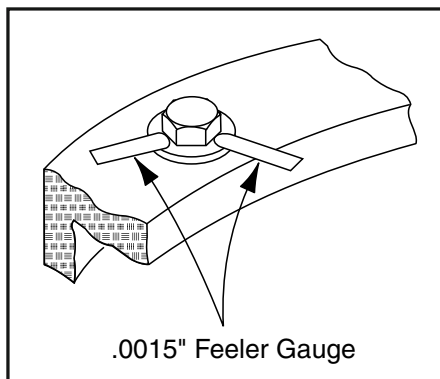

Figure 3-4. Swing Bearing Bolt Feeler Gauge Check
- b. At the positions indicated on Figure 3-4. try and insert the .0015" feeler gauge between the bolt head and hardened washer at the arrow indicated position.
- d. At the position indicated on Figure 3-4. try and insert the .0015" feeler gauge between the bolt head and hardened washer at the arrow indicated position.